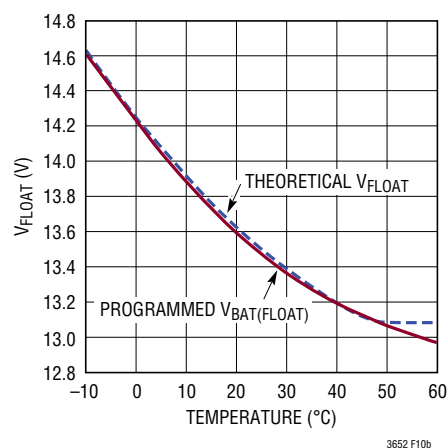

Figure 10. Thermistor-Based Temperature Compensation Network Programs V_{FLOAT} to Closely Match Ideal Lead-Acid Float Charge Voltage for 6-Cell Charger
While the circuit in Figure 9 creates a linear temperature characteristic that follows a typical $-3.3\text{mV}/^\circ\text{C}$ per cell lead-acid specification, the theoretical float charge voltage characteristic is slightly nonlinear. This nonlinear characteristic follows the relation $V_{\text{FLOAT}(1\text{-CELL})} = 4 \times 10^{-5} (T^2) - 6 \times 10^{-3} (T) + 2.375$ (with a 2.18V minimum), where T = temperature in $^\circ\text{C}$. A thermistor-based network can be used to approximate the nonlinear ideal temperature characteristic across a reasonable operating range, as shown in Figure 10.